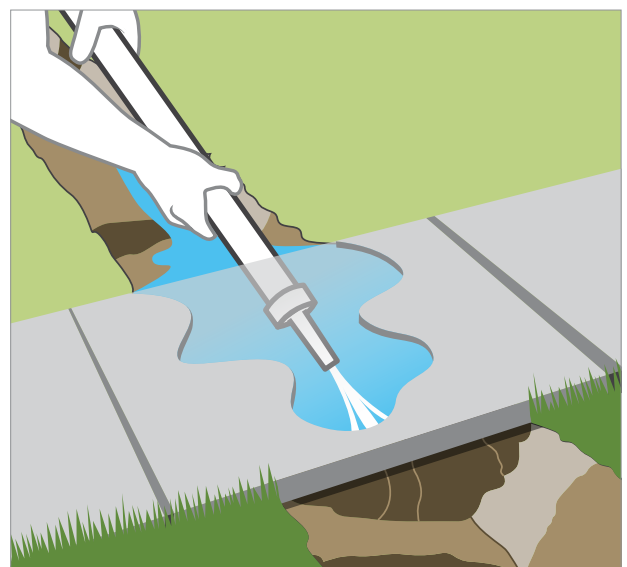

Figure 3
5. Installing Pipe Under a Walkway or Driveway: Jetting Method — Using a pipe-to-hose threaded adapter, connect one end of the pipe to a garden hose and attach a small stream hose nozzle to the other end. Turn the water on and jet under the concrete *Figure 3*.